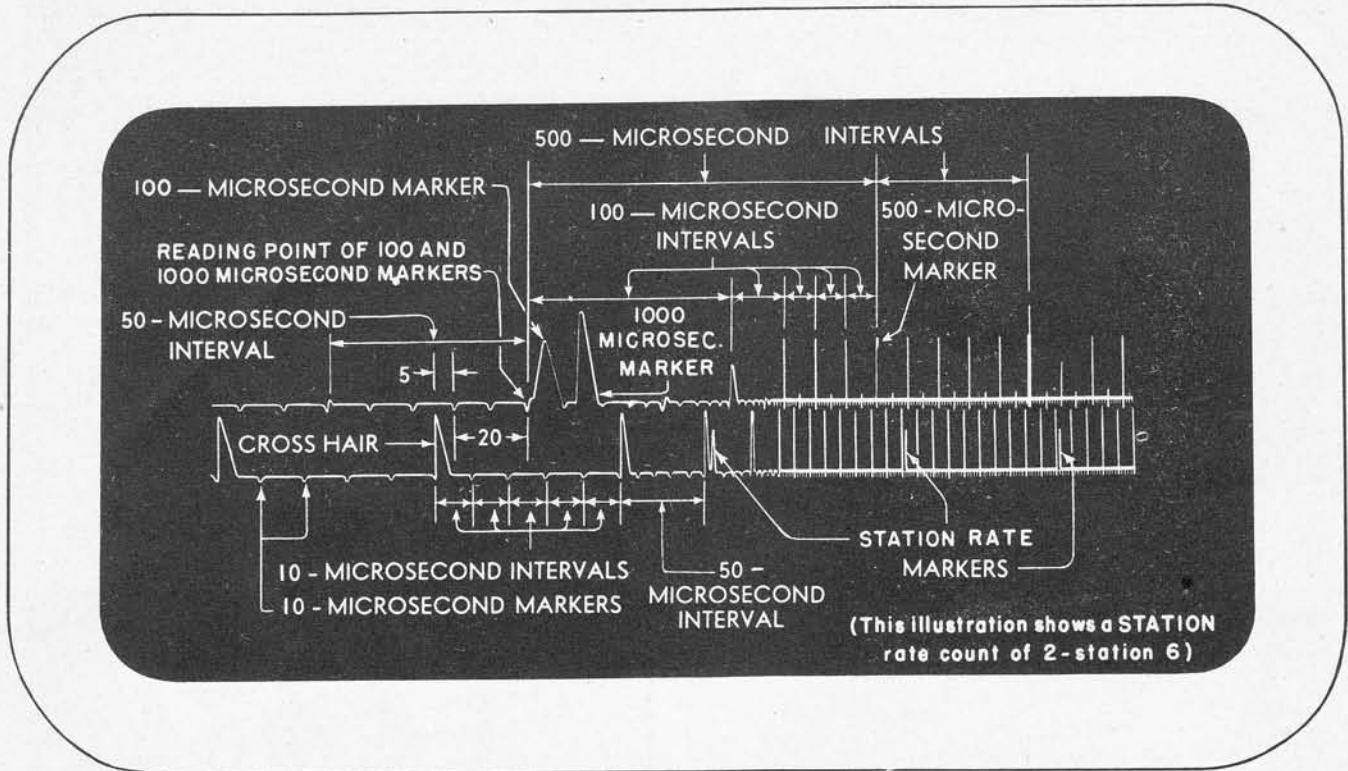

Figure 2-36
(26) The pattern on the indicator screen should appear as illustrated in figure 2-36. If the trace amplitude is incorrect (that is, if the length of the trace is too long or too short), adjust the "FA. SW. AMPL." screw driver control on the right hand side of the receiver-indicator until the traces assume a normal length.
(27) To center the traces horizontally, adjust the "FA. SW. H. CENT." screw driver control on the left hand side of the receiver-indicator until the traces are properly centered as shown in figure 2-36. Repeat and coordinate (26) and (27) until the amplitude and the centering of the traces is correct.
(29) If the position of the cross hair in relation to the upper trace is not properly located, adjust the "CROSS HAIR" screw driver control on the left hand side of the receiver-indicator until the spacing between the two traces is as shown in figure 2-36.
(30) Read the lower trace and count five 10-microsecond intervals between the 50-microsecond markers as shown in figure 2-36.
(31) Read the upper trace and count two 50-microsecond intervals between the 100-microsecond markers as shown in figure 2-36.
(32) Read the upper trace and count five 100-microsecond intervals between the 500-microsecond markers as shown in figure 2-36.
(33) Read the upper trace and count two 500-microsecond intervals between the 1000-microsecond markers as shown in figure 2-36.
(34) Count the number of 50-microsecond intervals between the cross hair and the first "STATION" rate marker. Repeat this operation for the other "STATION" rate settings, "1" to "7" inclusive. The counts observed must agree with the table as shown below. Figure 2-36 shows a Station Rate of "6."